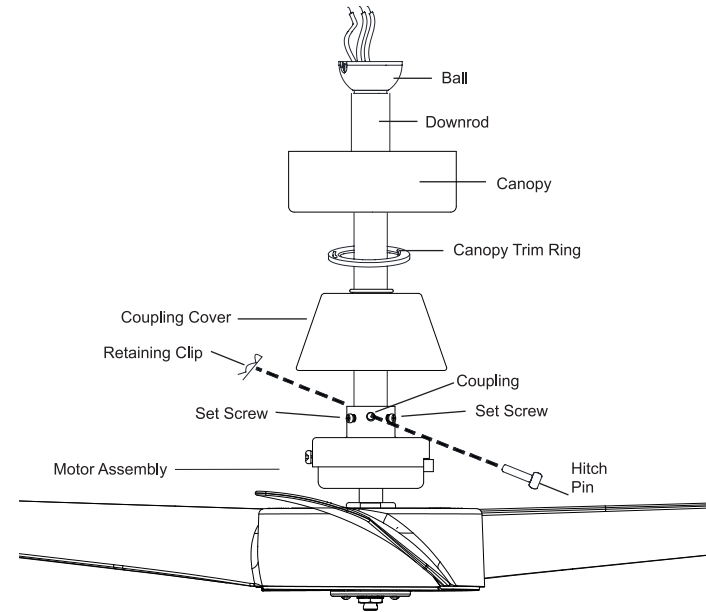

Fig. 9
Step 6. Loosen the two set screws (do not remove) in the coupling on top of the motor assembly. **(Fig. 9)**
Step 7. Carefully feed the wires from the coupling on top of the motor assembly up through the downrod. (Fig. 9)
Step 8. Thread the downrod into the coupling on top of the motor assembly until the hitch pin holes in the downrod and the hitch pin holes in the coupling are aligned. Carefully insert the hitch pin through the holes in the coupling and the downrod. (Fig. 9)
Insert the retaining clip through the hole in the hitch pin until it snaps into its locked position. (Fig. 9)
Step 9. Tighten the two set screws in the coupling on top of the motor assembly firmly. (Fig. 9)
Step 10. Carefully slip the coupling cover, canopy trim ring (smooth finished side facing motor body), and canopy onto the downrod. (Fig. 9)